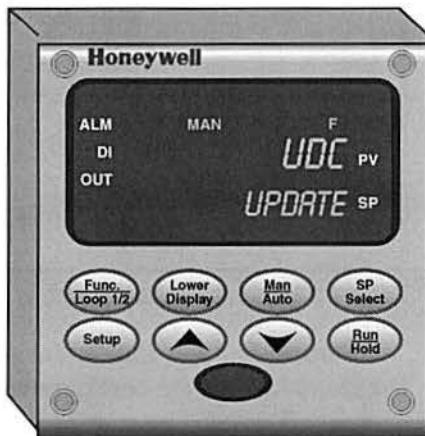

Figure 38. Honeywell UDC 3500 Controller Factory Reset Initialized
**Step 2: Initiate the Restoration during Power Up Sequence** - Simultaneously pressing the Func Loop 1/2 and up  $\blacktriangle$  arrow keys while "TEST DONE" appears on the display places the controller in the restoration mode. The upper display should show "UDC" and the lower display should show "UPDATE", as figure 38 shows.